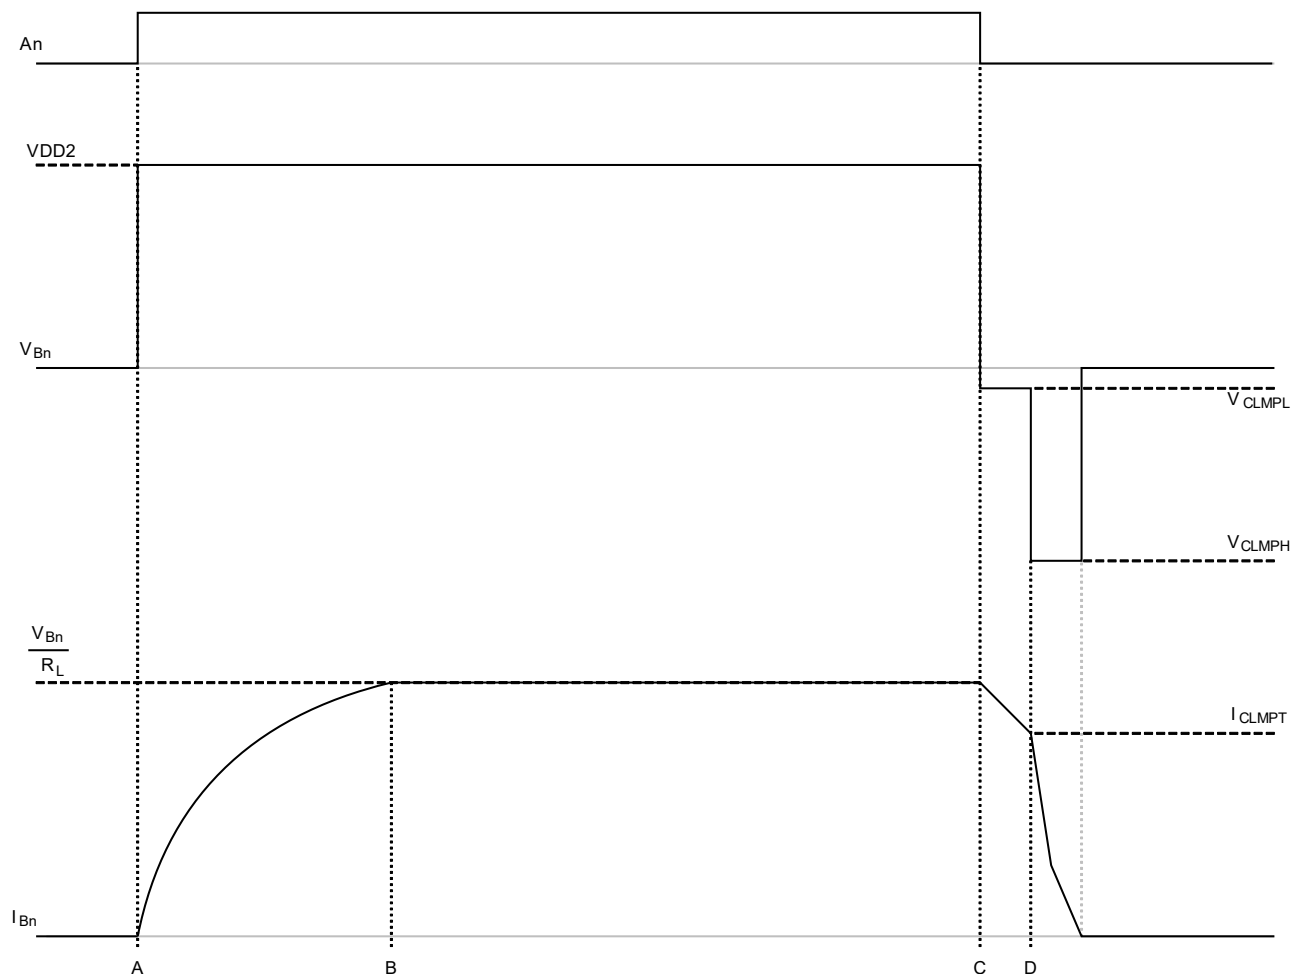

Figure 8. Demagnetization Protection Behavior
Figure 8 above illustrates the behavior of a high-side (sourcing) Si834x switch when driving a relay at the switch's typical ON State Load Current ($I_{O(ON)}$) and under normal operating conditions. It plots the digital input to the switch (A_n) as well as the output voltage (V_{Bn}) and output current (I_{Bn}) from the switch. It assumes a simplified model for the relay coil of a simple inductor (L) in series with a resistor (R_L). All plots are for a specific channel, with n specifying the channel number.
The figure above illustrates the behavior of a high-side (sourcing) Si834x switch when driving an inductor at the switches' typical ON State Load Current ($I_{O(ON)}$), but then experiencing two different over-temperature events (OT Event). The "Normal Operation" section is identical to Figure 8, "Demagnetization Protection Behavior," on page 13 and is included for reference. The figure plots the digital input to the switch (A_n), the temperature of any output channel ($T_{B(ANY)}$), as well as the output voltage (V_{Bn}) and output current (I_{Bn}) from the switch where n is a specific channel number. It also illustrates the Over-Temperature Constraint diagnostic register value for the channel (OT_CNSn) when the enable mask for auto-clearing of diagnostics ($ACLR_EN$) is set to true. This is the default diagnostic report clearing behavior.
The figure above illustrates the behavior of a high-side (sourcing) Si834x switch when driving an inductor at the switches' typical ON State Load Current ($I_{O(ON)}$), but then experiences an overvoltage condition on the switch power supply (VDD2). The "Normal Operation" section is identical to Figure 8, "Demagnetization Protection Behavior," on page 13 and is included for reference. The figure plots the digital input to the switch (A_n), the VDD2 supply voltage (VDD2), as well as the output voltage (V_{Bn}) and output current (I_{Bn}) from the switch where n is a specific channel number. It also illustrates the VDD2 Out of Specification register value (VDD2_OS) when the enable mask for auto-clearing of diagnostics (ACLR_EN) is set to true. This is the default diagnostic report clearing behavior.